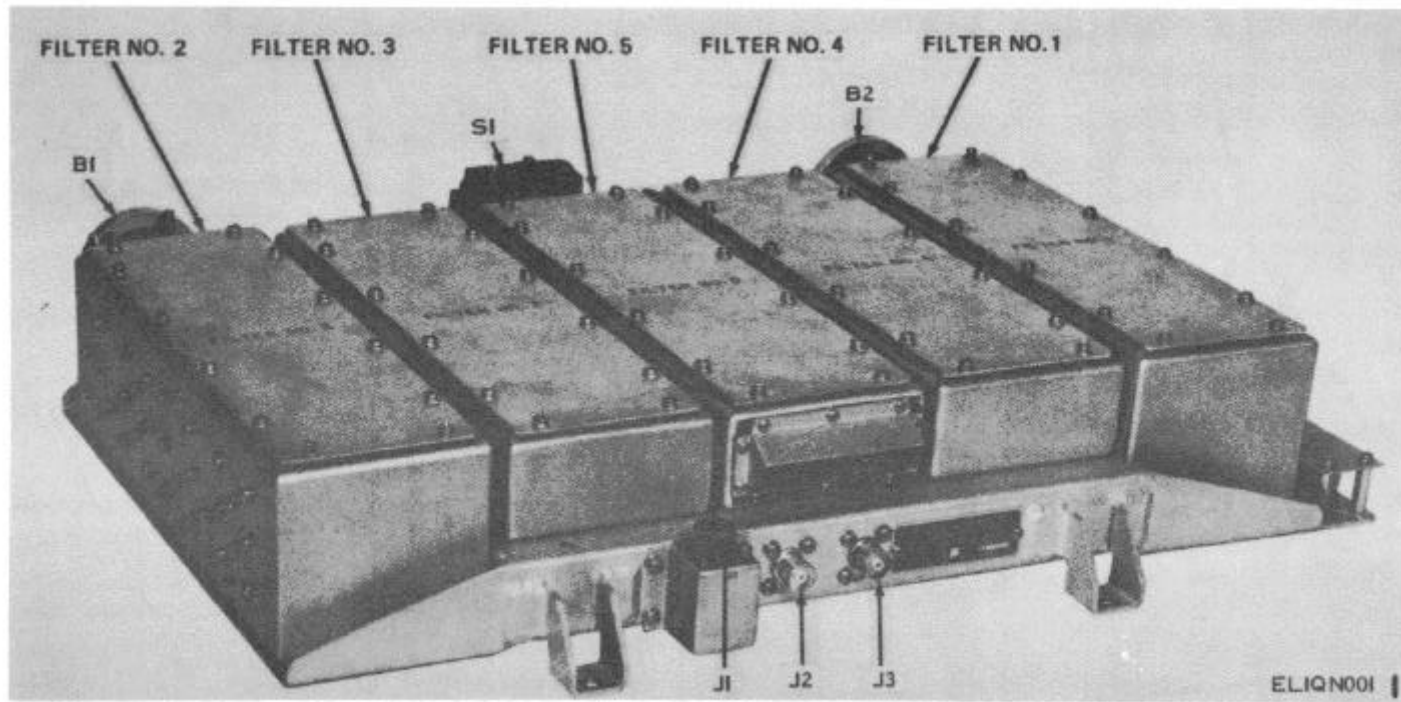

Figure 4-11.1. Low pass filter 1A21, top view.
a. *General.* Perform this procedure whenever a section of low pass filter 1A21 requires replacement. Refer to figure 4-11.1 for filter locations and both figures 4-11.1 and 4-11.2 for location of parts discussed in removal procedures.